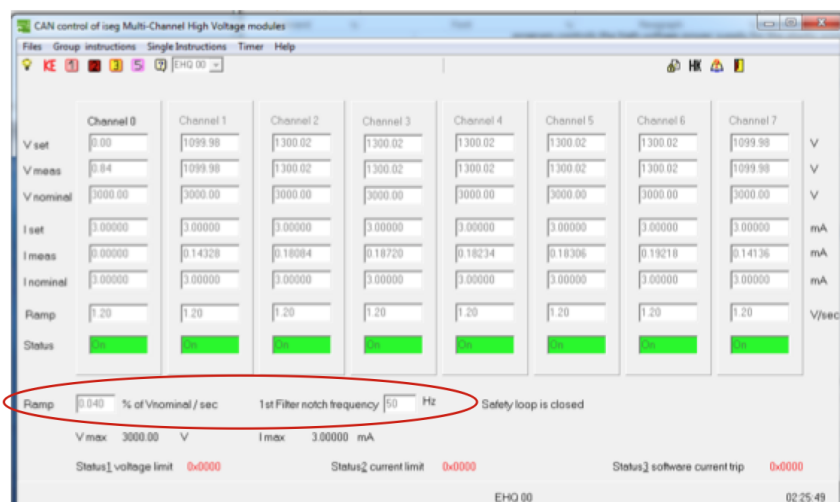

Figure 19. EHS/EHQ 00 and 01 iSEG Multi-Channel High-Voltage Modules Screens; VRamp and IRamp fields are circled in red.
9. Make sure the voltages (Vset) for ESQ00/EHS00 and EHQ01/EHS01 are set (Figure 19). Modify the Vset fields as follows: